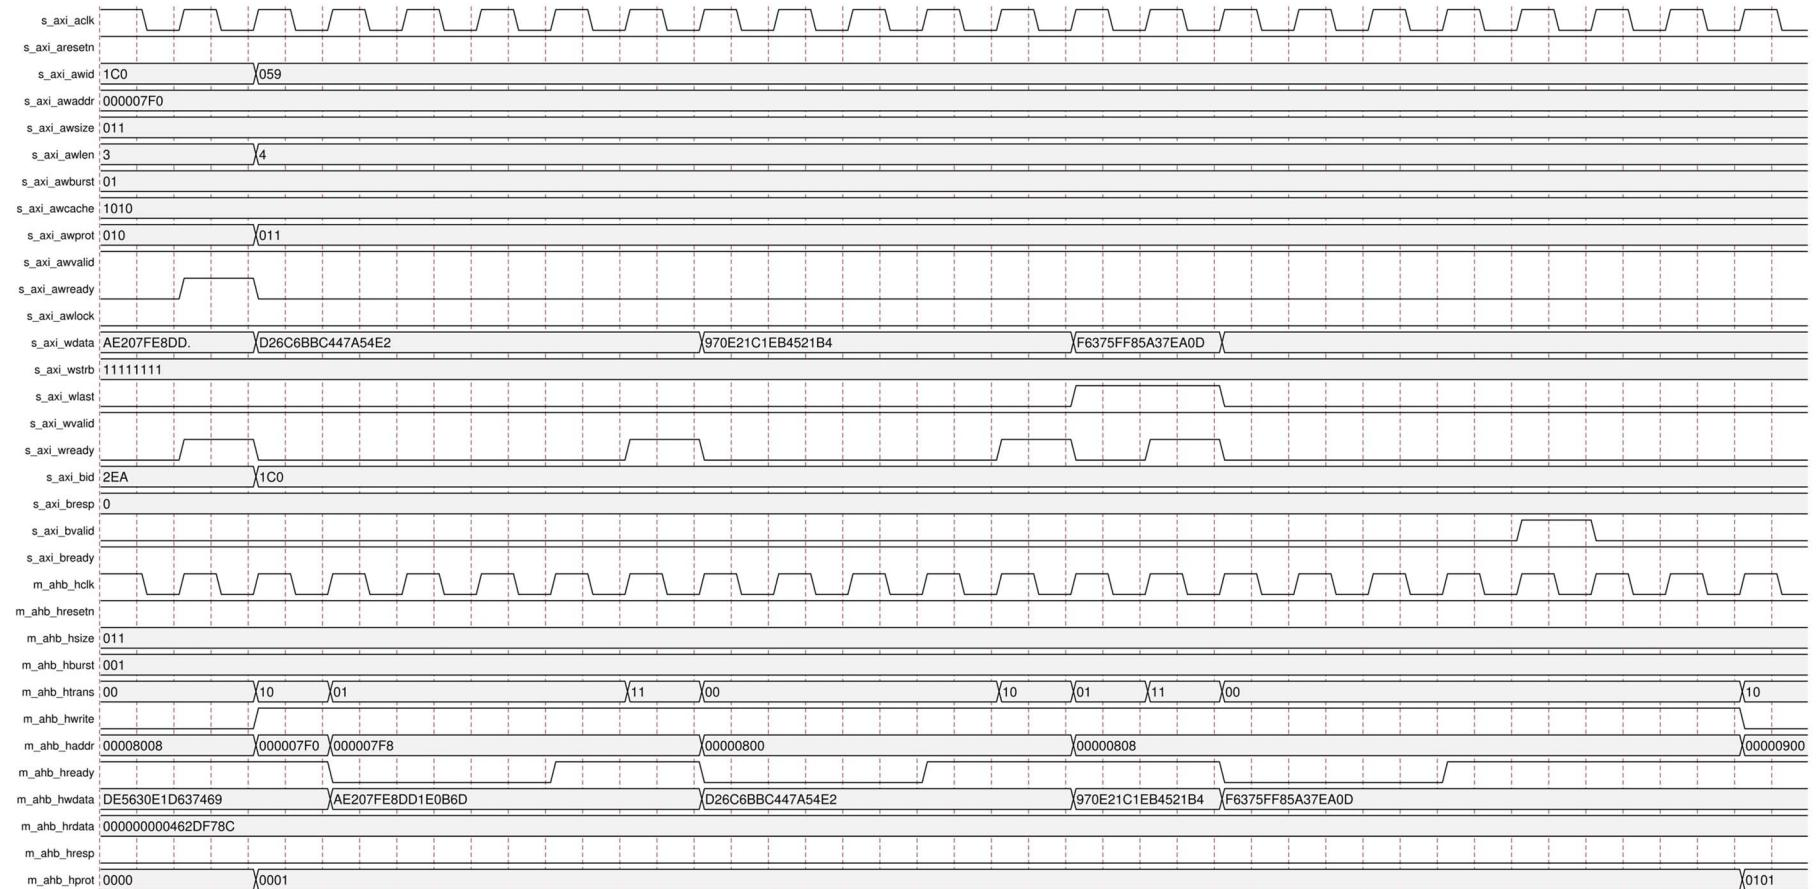

Figure 3-13: AXI4 Burst Write Transfer of Length 4 That Crosses 1 KB Address Boundary on AHB-Lite
13. AXI4 burst write transfer of length 4 that crosses the 1 KB Address on the AHB-Lite is shown in Figure 3-13. One AXI4 write transfer is split into two AHB-Lite write transfers as the 1 KB boundary is crossed.